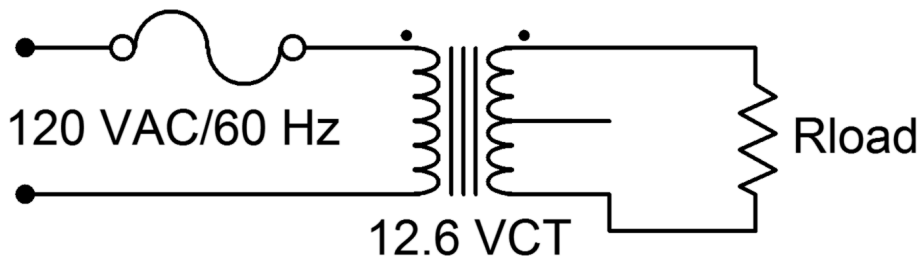

Figure 3
5. This section uses the 120 VAC line. Treat it with the caution it deserves. Connect the circuit of Figure 3 leaving R_{load} unconnected. Measure the secondary voltage with the DMM (AC Volts). Record the value in Table 3 under “Unloaded”.